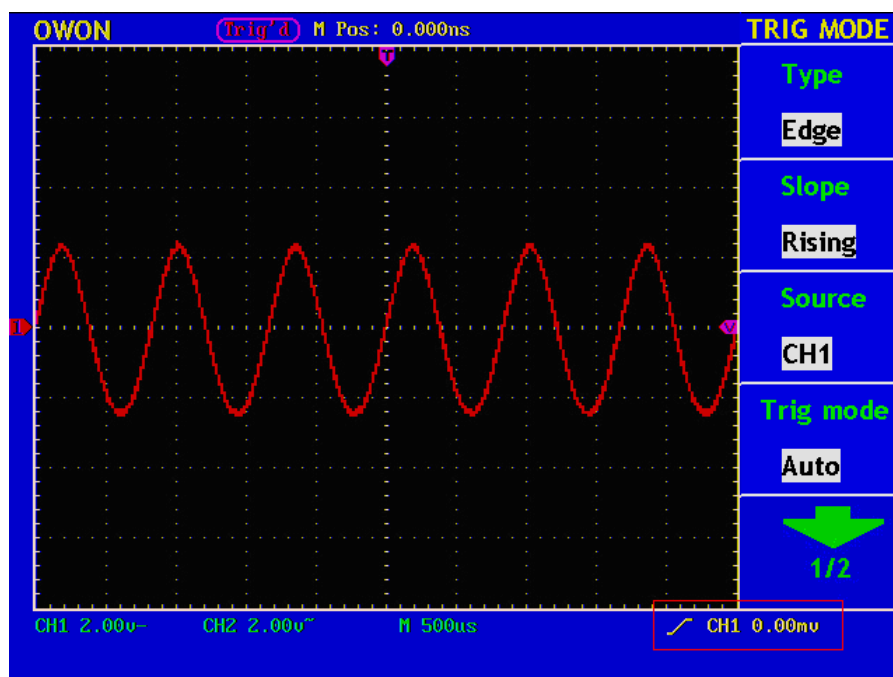

Fig. 39 Edge trigger (Rising Wave)
- 5、Press "F4" to choose trigger mode as "Auto". Display as Fig.39